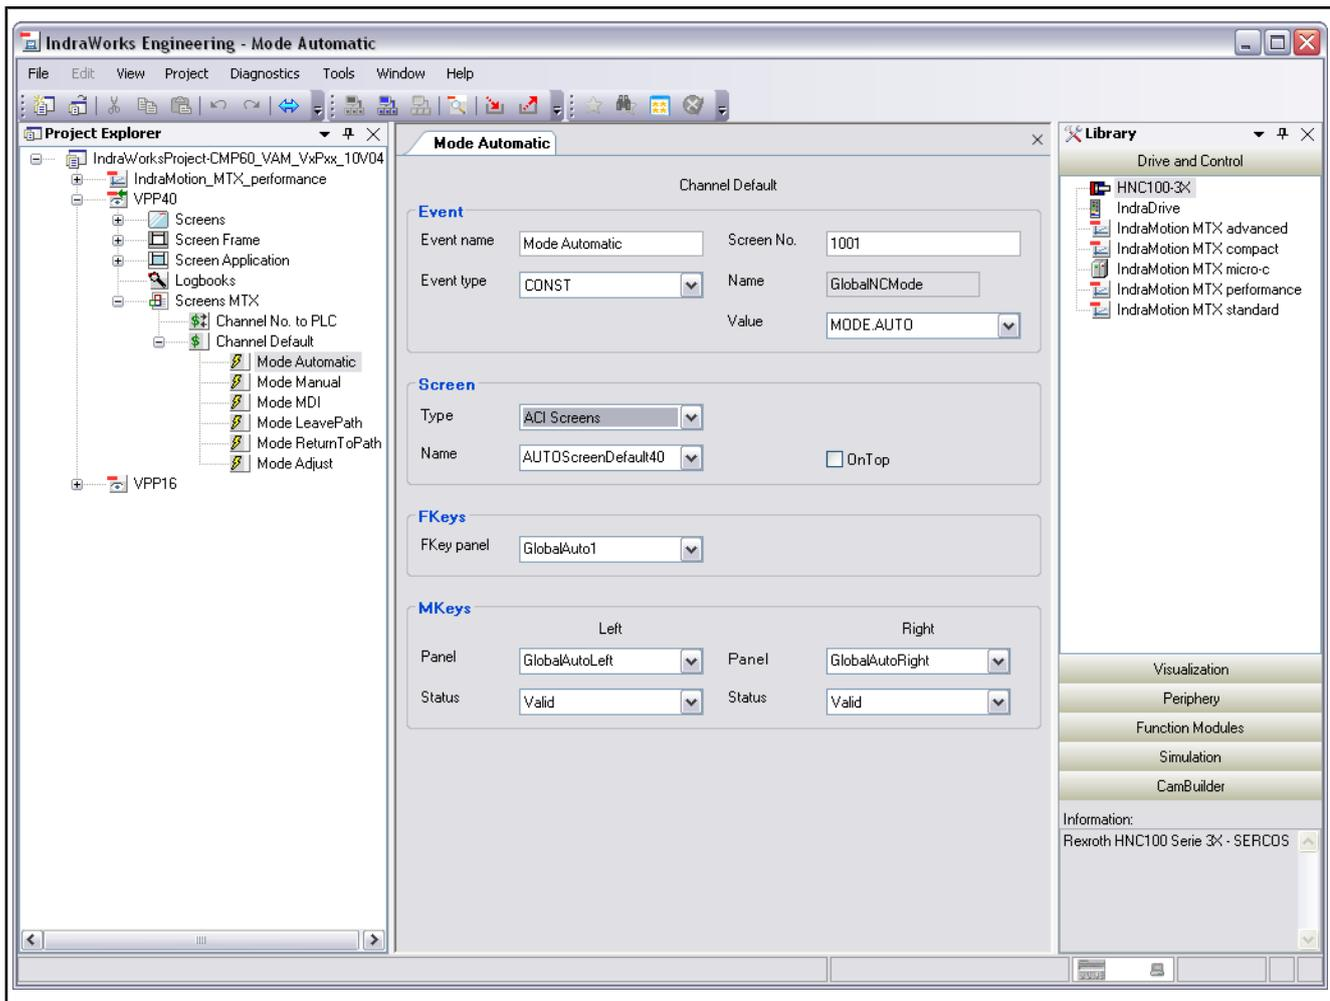

Fig. 7-35: Project node "Screens MTX" (Mode Automatic)
**Description** In the Engineering Desktop, it is configured below the "Screens MTX" node that either an HMI screen or an ACI screen are called together with M-keys and F-keys in the Operation Desktop when a channel-dependent event occurs (changing an SCP item or a PLC variables) (fig. 7-35 "Project node "Screens MTX" \(Mode Automatic\)" on page 158). ACI screen used that way are also named NC screens.